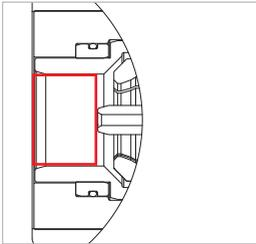

Figure 18
- ▶ Prior to inspection, it is essential to flush the following areas of the WEH® Product with compressed air or nitrogen (Figure 18):